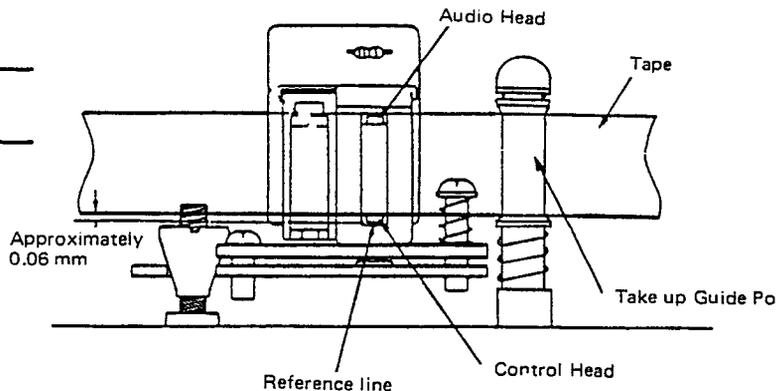

Fig. 33 Audio/Control head height
3. Carefully and evenly adjust screws ②, © and nut ① to align the audio/control head height with the tape as shown in Fig. 33.